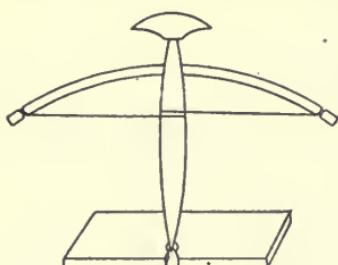

FIG. 120.—Boy-scout method of making fire by friction.
14. The turbine in the City of Tacoma Power Plant (see Fig. 120) uses a head of 415 ft. 145 cu. ft. a second pass through the turbine. Calculate the horse-power.
Fourth, heat is also produced whenever *mechanical energy* of motion is overcome, whether it be by *friction*, *concussion*, or *compression*. Friction always results in the production of heat, as when we warm our hands by rubbing them together. When friction is excessive, such as in the case of a heavy bearing not properly oiled, the bearing may get very hot. This is the cause of the "hot box" on a railway car. Friction may produce heat enough to set wood on fire. Some fires in mills are believed to be due to this cause. Every boy scout must learn how to produce fire by friction. (See Fig. 120.) Concussion may be illustrated by the heating of a piece of metal by hammering it, while the compression of a gas always makes it warmer, as those who have used a bicycle pump have observed. The production of heat by compressing a gas is illustrated by the "fire syringe" (Fig. 121). This consists of a glass tube with a tightly fitted piston. A sudden compression of the air contained may ignite a trace of carbon bisulfid vapor.